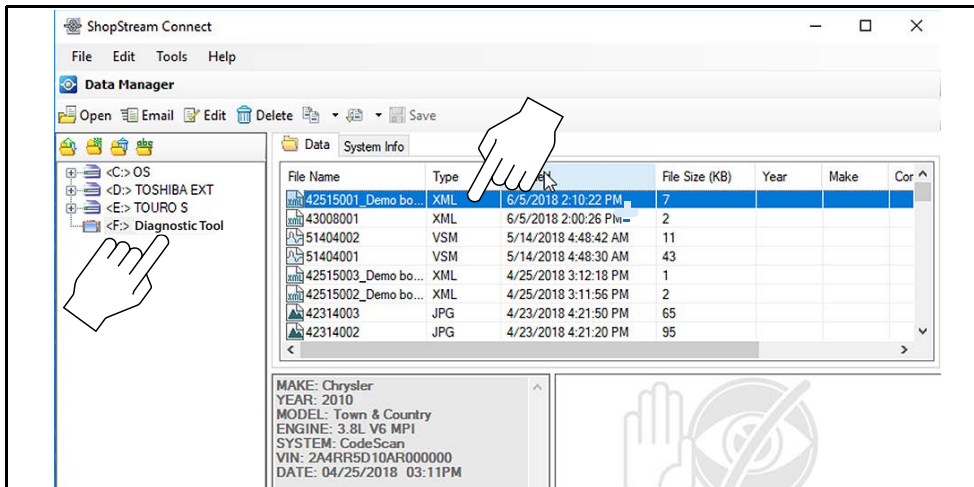
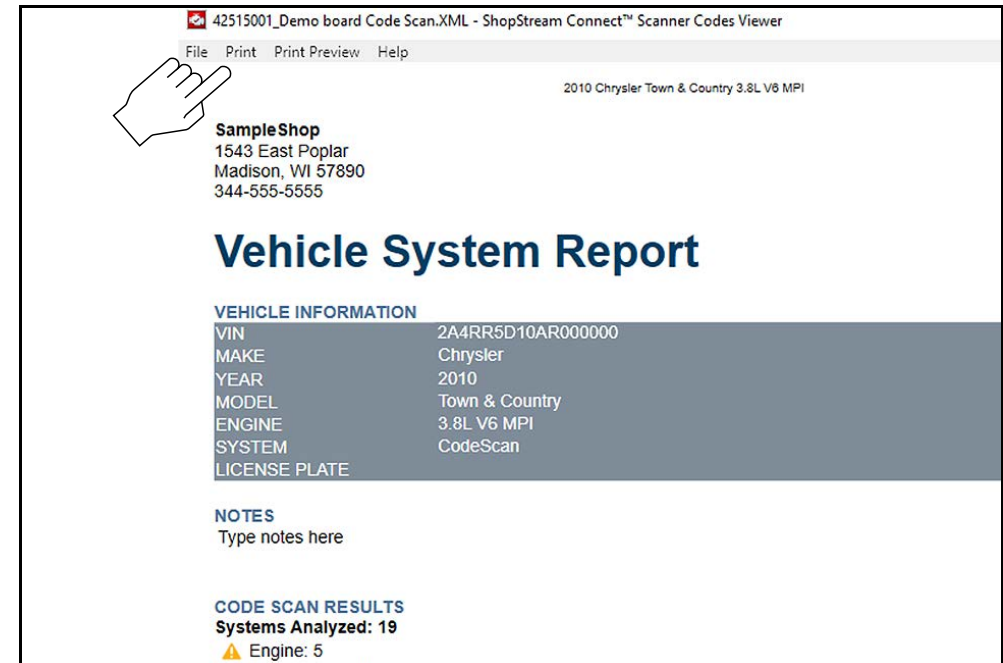

Figure 7-5
Figure 7-6
1. Double-click the code scan .XML file from the file list to open the Vehicle System Report (Figure 7-5) in the Code Scan Viewer (Figure 7-6).
2. Select **Print** or **Print Preview** from the Code Scan Viewer menu to print or preview the Vehicle System Report (Figure 7-6).